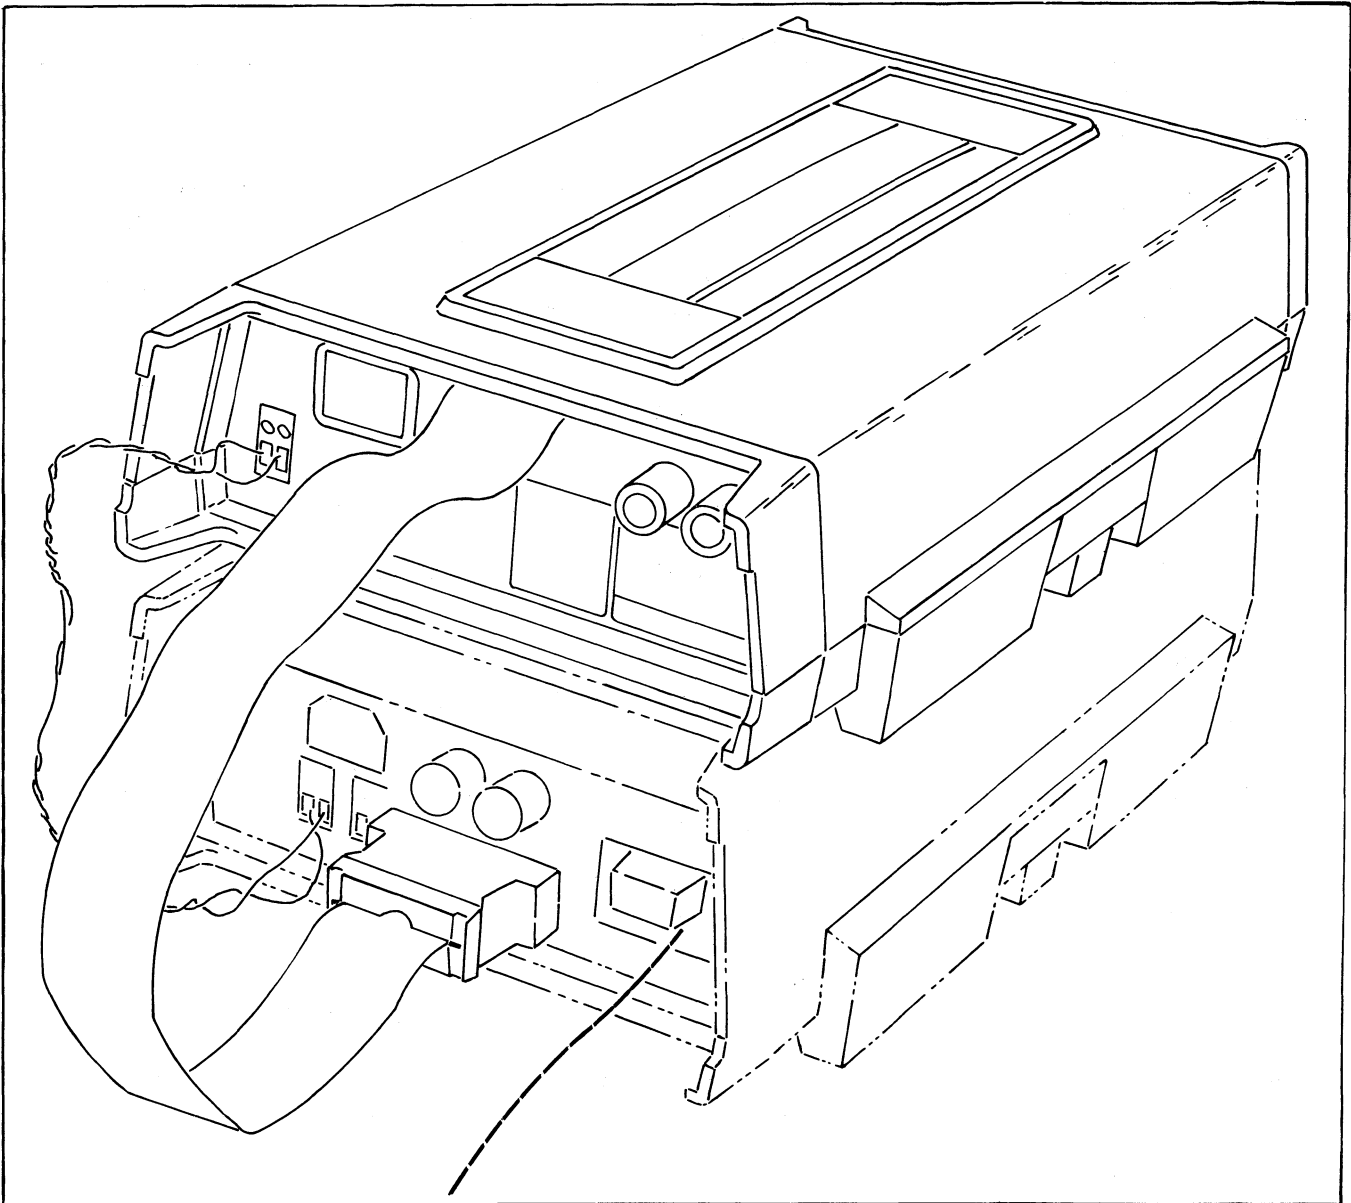

Figure 4. Y2003/2190A Connection
1. Connect the Y2003's Accessory Cable to the 2190A's Accessory Connector (see Figure 4). If portable operation is desired connect the Y2003's +12V dc output to the 2190A's +12V dc input using a #18 two connector copper wire.